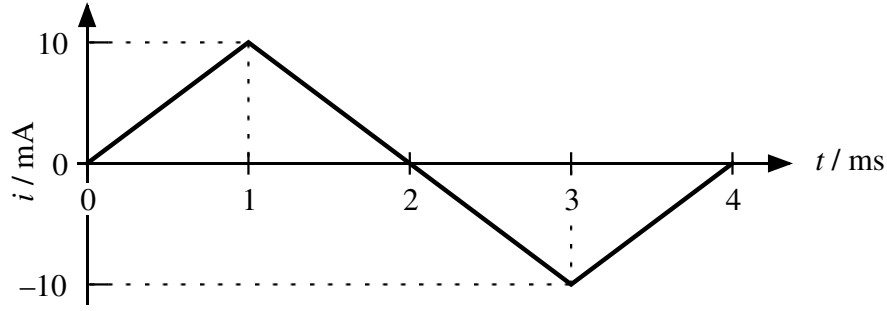

Figure 1. Current applied to a 10 mH inductor.
- 1.3 The current $i(t)$ shown in figure 1 is applied to a 10 mH inductor. Calculate the voltage $v(t)$ across the inductor as a function of time.